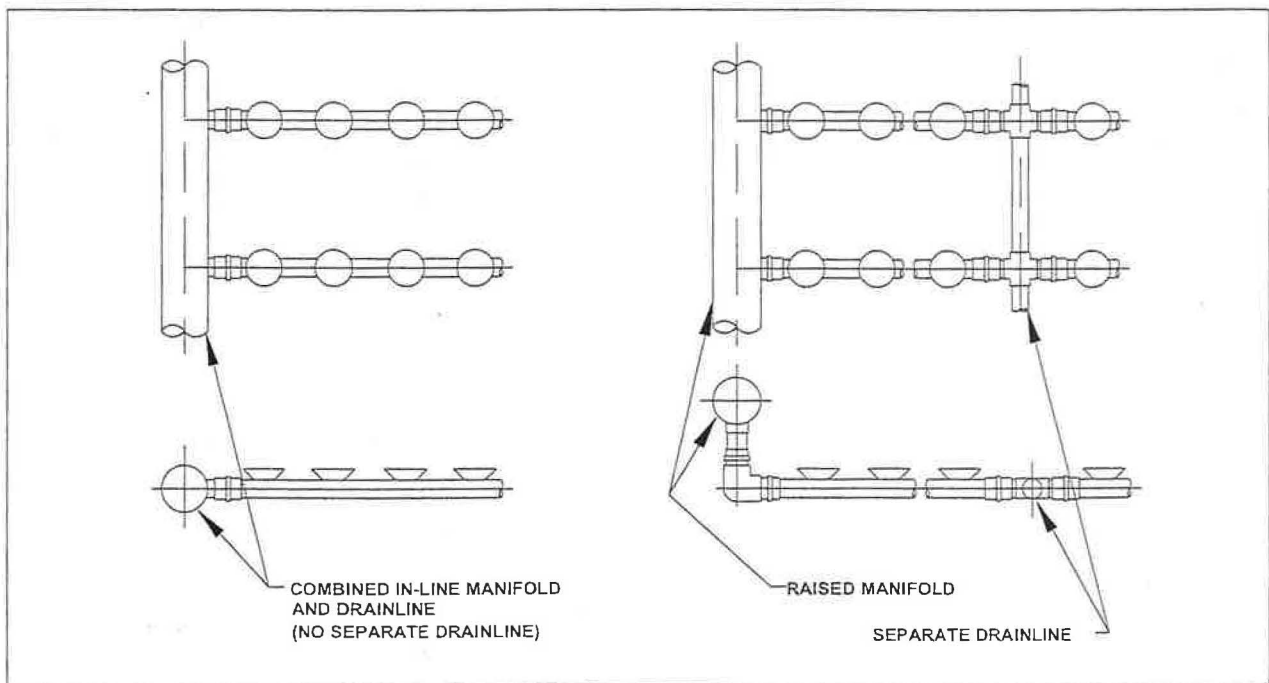

Figure 15
*Separate drainlines are primarily used on fine bubble systems with raised manifolds. Nearly all systems with in-line manifolds will not have separate drainlines as the manifold serves as the drainline. See Figure 15 and the erection drawings.*